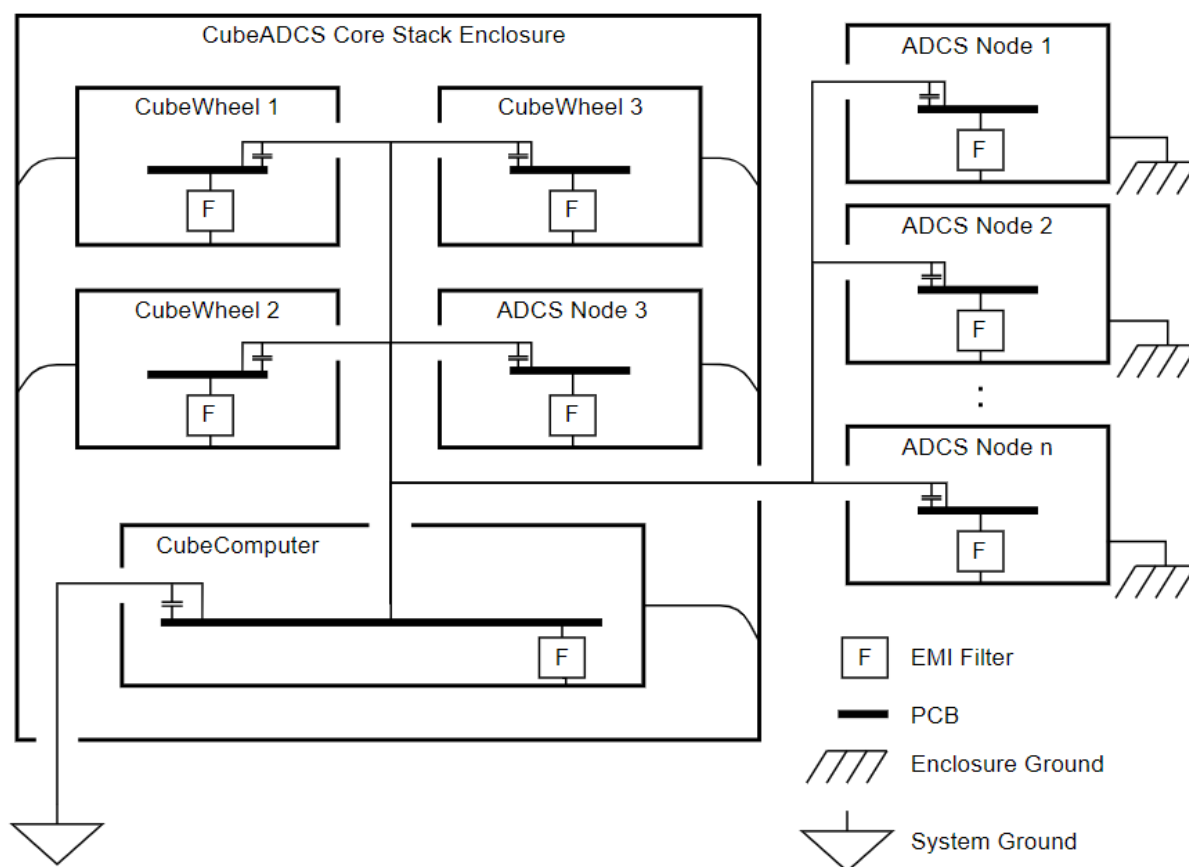

Figure 4: Generic Grounding diagram
The enclosure and mechanical parts of CubeSense Earth are connected to the electrical ground through a filter designed to minimise EMI, as illustrated by Figure 4, with “ADCS node 1” representing the CubeSense Earth. (Note that a generic CubeADCS diagram is shown to explain the grounding strategy followed, for consideration by the client). The enclosures of the [CubeADCS core stack] and the CubeSense Earth can be grounded by the user if desired.
- a. All pins that are externally exposed through headers are filtered by way of 100pF decoupling to ground as shown in Figure 4.